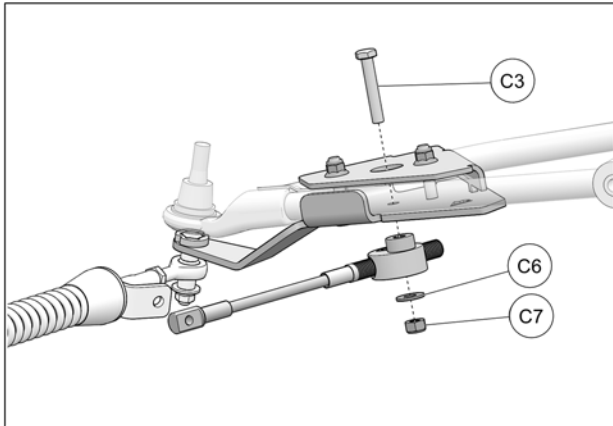

Fig. 23
13. Attach steering limiter cable assembly under anchor bracket using bolt (C3) inserted through bracket cover, washer (C6) and nut (C7). Tighten nut to 50 N•m [37 lb•ft]. Refer to Fig. 23